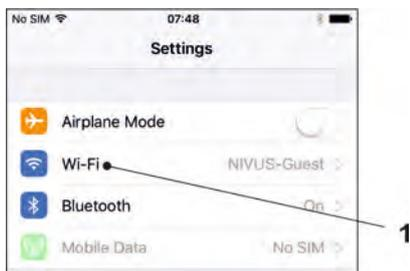

Fig. 31-12 WLAN symbol
3. Select WLAN (Fig. 31-12 no. 1).